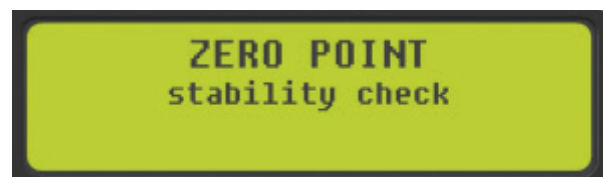

FIG.9
6. LCD display will read “**ZERO POINT set successfully**” once the process is complete (Fig. 9).